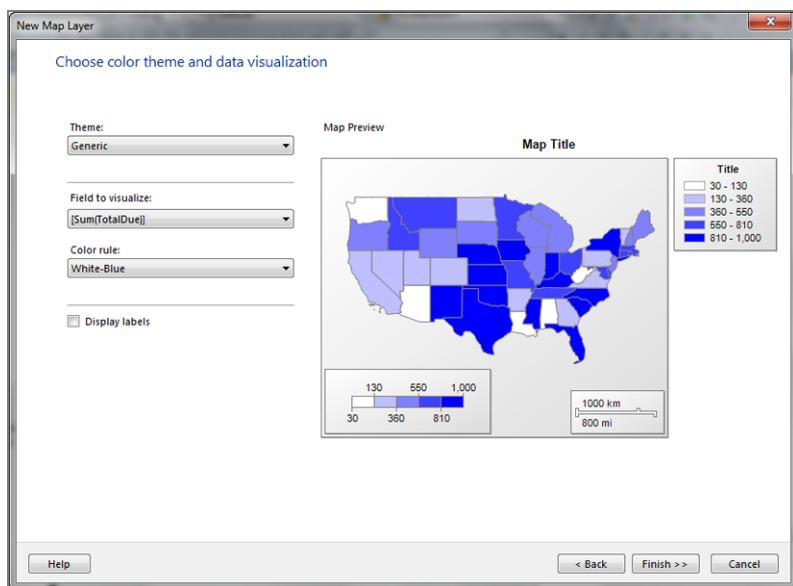

Figure 10-14
5. On the final step of the wizard, select the `Sum(TotalDue)` field as the field to visualize and change the color rule to White-Blue (as shown in Figure 10-14). You will make further changes to the color scheme to more accurately match the dashboard later.